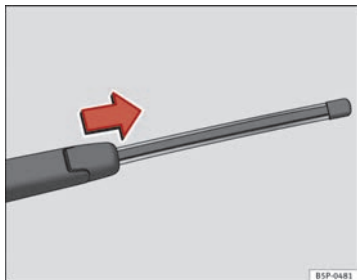

Fig. 172 Removing the rear window wiper blade
- Lift the wiper arm away from the glass ⇒ Fig. 172
- Slide the blade adapter in the direction of the arrow and remove the blade ⇒ Fig. 172.